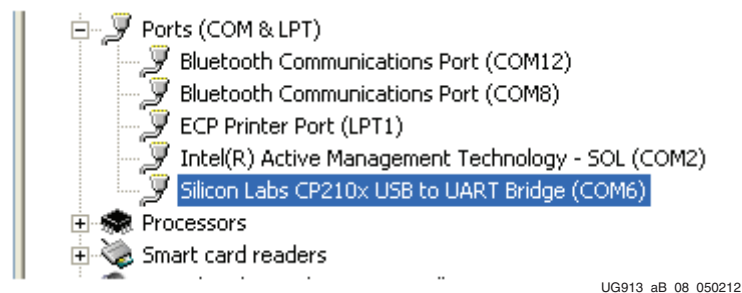

Figure A-1: Silicon Labs USB to UART Bridge Properties
6. Expand the **Ports (COM & LPT)** entry as shown in Figure A-1. This shows the COM port assigned to the **Silicon Labs CP210x USB to UART Bridge**. This is the COM port to use in the serial communications program.
**Note:** The COM port setting for the user system might be different from the one shown in Figure A-1.